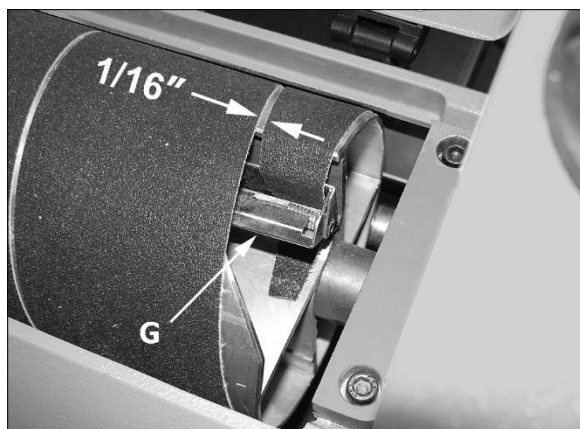

Figure 7
The last winding should have a 1/16 to 1/8 in. gap, before insertion into inboard fastener (see Figure 7).
5. Press inboard take-up lever (G, Figure 7) and insert trailing end of strip as far as it will go. If necessary, trim tapered end of abrasive strip.